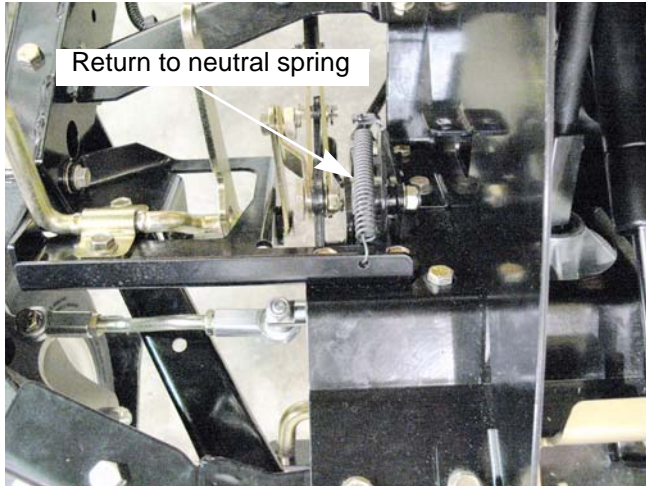

Figure 6.26
15. Install the return to neutral spring. See Figure 6.26.